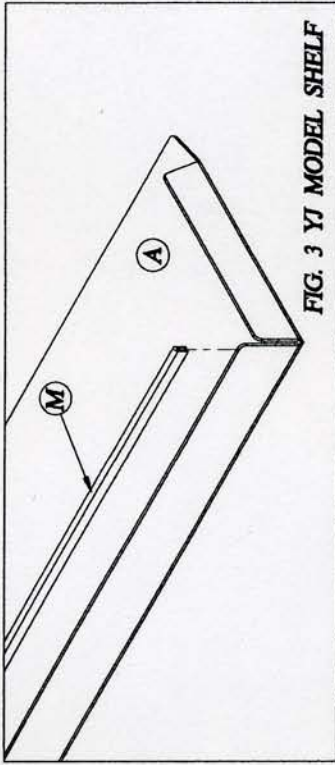
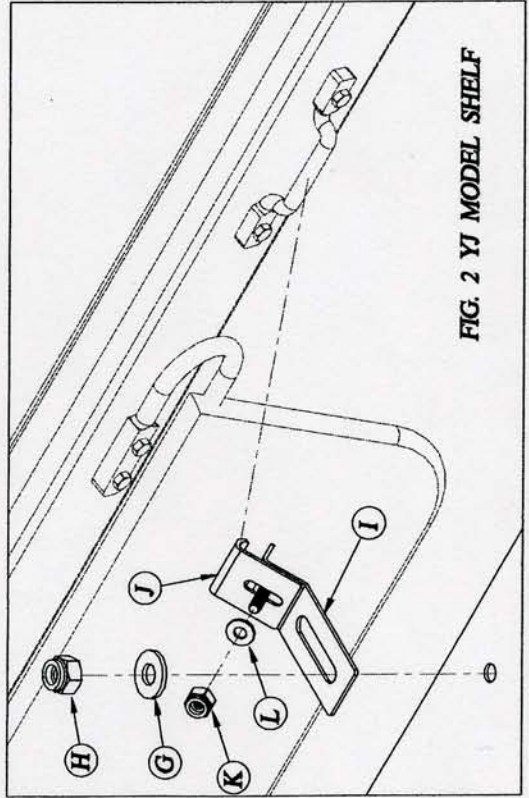

FIG. 3 YJ MODEL SHELF
FIG. 2 YJ MODEL SHELF
2. Install trim-lok (M) onto shelf front lip by gently tapping with a rubber or wooden mallet until trim-lok is completely seated as shown in Fig. 3.
3. Open the circular brackets (B) and slip around side roll bars attaching the circular brackets to each side of the shelf (A) with the 5/16" x 3/4" carriage bolt (C), 5/16" flat washer (D), and 5/16" nyloc nut (E) provided. Do not tighten hardware.
4. Attach center bracket (I) to shelf using the 1/4" pan head screw (F), 1/4" flat washer (G), and 1/4" nyloc nut (H) provided. Do not tighten hardware.
5. Attach slip joint bracket (J) to center bracket (I) using 3/16" flat washer (L) and 3/16" nyloc nut (K) provided. Do not tighten hardware. Slide shelf forward toward windshield until slip joint bracket (J) clamps around windshield loop as shown in Fig. 2. Tighten 3/16" nyloc nut (L) securing windshield loop between center bracket (I) and slip joint bracket (J).